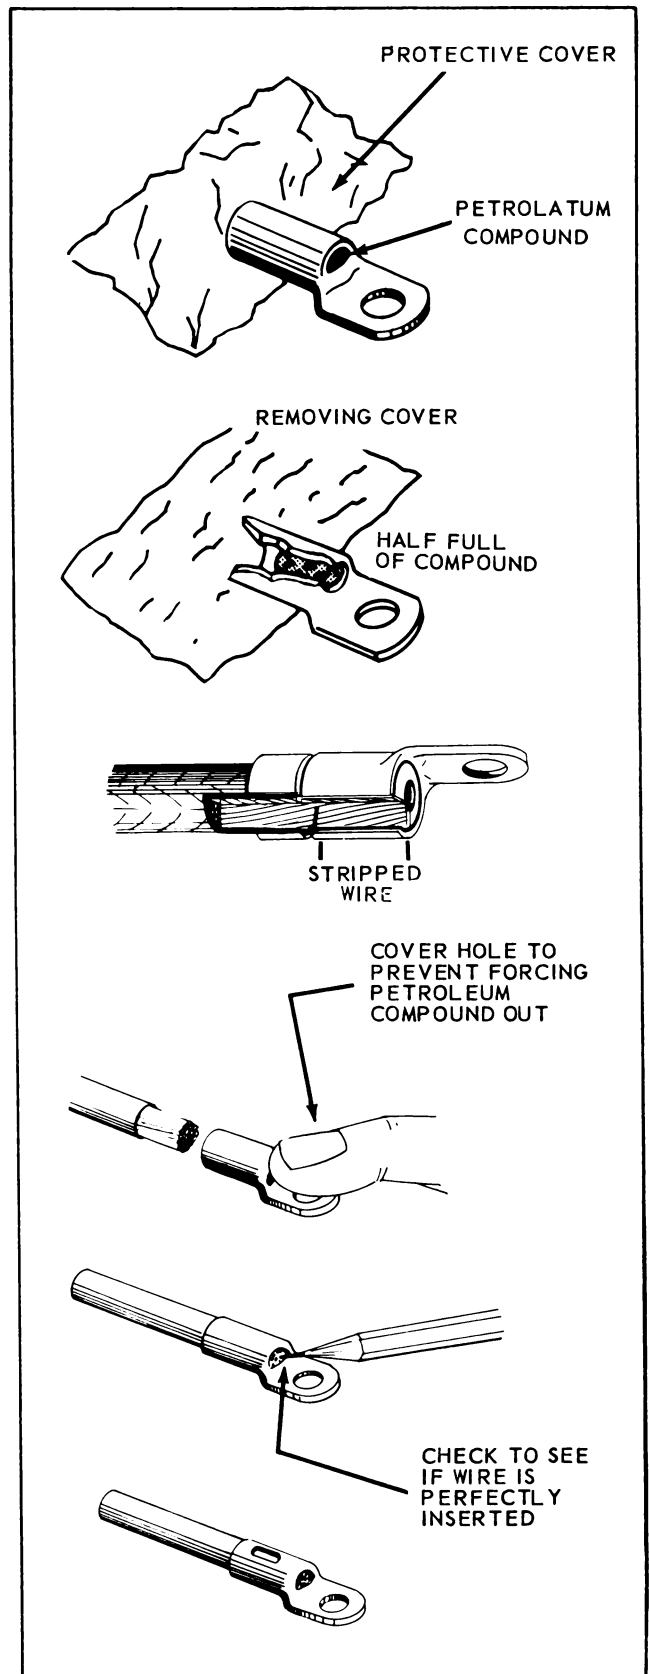

Figure 5-12. Inserting Aluminum Wire Into Burndy AMP and T & B Aluminum Terminal Lugs
5-43. ALUMINUM TERMINAL LUGS. Aluminum terminal lugs are only used to terminate aluminum wires. See Figure 5-1 for sample connections. Aluminum terminal lugs are available in three types: straight, right-angle and flag. All aluminum terminals have an inspection hole, which permits checking depth of wire insertion (see Figure 5-12). The barrel of all aluminum terminal lugs is filled with a petrolatum-zinc dust compound. This compound, by a grinding process during the crimping operation, removes the oxide film from the aluminum. The compound will also minimize later oxidation of the completed connection by excluding moisture and air. The compound is retained inside the terminal lug barrel by a plastic or foil seal at the end of the barrel.
d. Remove protective cover from terminal lug barrel. See Figure 5-12.
f. Remove protective cover from terminal lug barrel. See Figure 5-12.